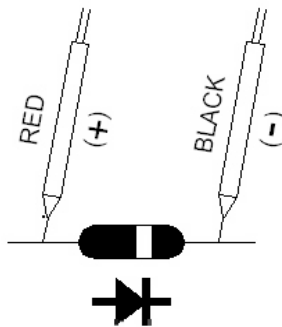

Fig. 2
- 5) a. When connected with polarity as shown in Fig. 2, a forward current flow is established and the approx. Diode Forward Voltage (VF) value in volt will appears on the display reading. If the diode under test is defective, " .000 " or near " .000 " value (short circuit) or " OL " (open circuit) will be displayed.